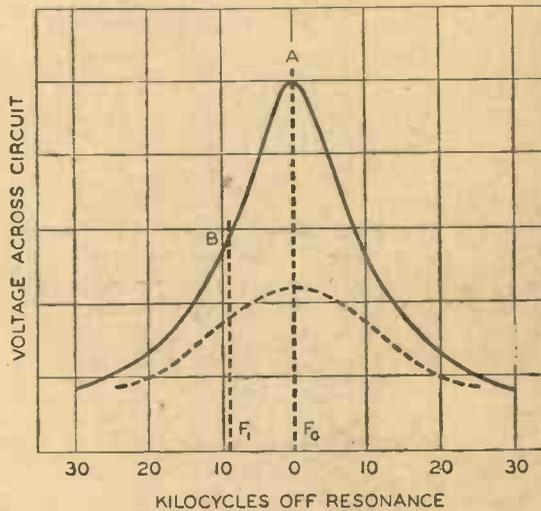

Fig. 6.—A graphical diagram representing the selectivity characteristics of a circuit.
The selectivity characteristics of a circuit can be detailed in various ways but undoubtedly a graphical diagram gives the information in a form that can be most readily appreciated. Fig. 6 is an example of one kind of graph (Ignore the dotted curve at present.) It is to be assumed that the H.F. circuit is kept tuned to a constant frequency and that an e.m.f. of constant amplitude, but of variable frequency, is injected into it. The voltage built up across the circuit by the oscillations at various frequency values is measured, and these voltage values are plotted against frequency. As we are interested only in a fairly limited range of frequencies centred on the resonant value, it is convenient to make the frequency scale show kilocycles off resonance (with a centre zero point for the resonant frequency itself).
In Fig. 6 let  $F_0$  and  $F_1$  correspond to the frequencies of the wanted signal and an unwanted signal, respectively. For equal e.m.f.'s, A will represent the output from the wanted signal, and B the output from the unwanted signal. The ratio A/B is of great importance. Incidentally, this ratio gives the number by which the output voltage at resonance must be divided to give the output voltage of the unwanted signal, and "so many times down at so many kc/s off tune" is a useful method of indicating the selective properties of a circuit. It will be understood, however, that a number of different frequency points must be specified if a clear idea of the circuit's selectivity is to be obtained. That is why a graph is so convenient.
H. F. resistance normally increases with increase of frequency, as already stated, but over the range of frequency variation that is associated with such a curve as that of Fig. 6 we can regard any change of resistance as being small. It is to be understood, however, that it will not be permissible to neglect resistance changes unless the tuning of the circuit remains constant.
In Fig. 6, the dotted curve corresponds to a case where the  $L/C$  ratio is the same as for the full-line curve, but  $R$  is greater.